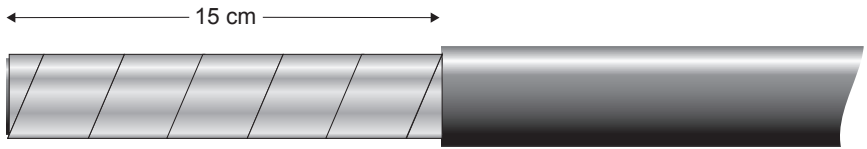

Figure 17.
1. First, remove the black outer sheath for a length of 15 cm by cutting radially round the HVSC Plus cable with a sharp knife. The lengthwise cut can also be completed with a knife, but take great care not to score or damage the copper tape. Cut and remove the material lining over the copper tape [Figure 17].